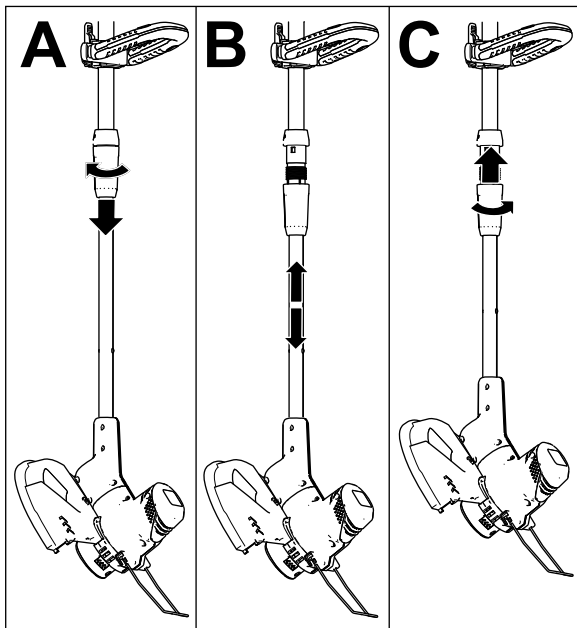

Figure 14
1. Loosen the lower shaft connector (A of Figure 14).
2. Slide the telescoping shaft to your desired position (B of Figure 14).
3. Tighten the handle connector to secure the handle (C of Figure 14).